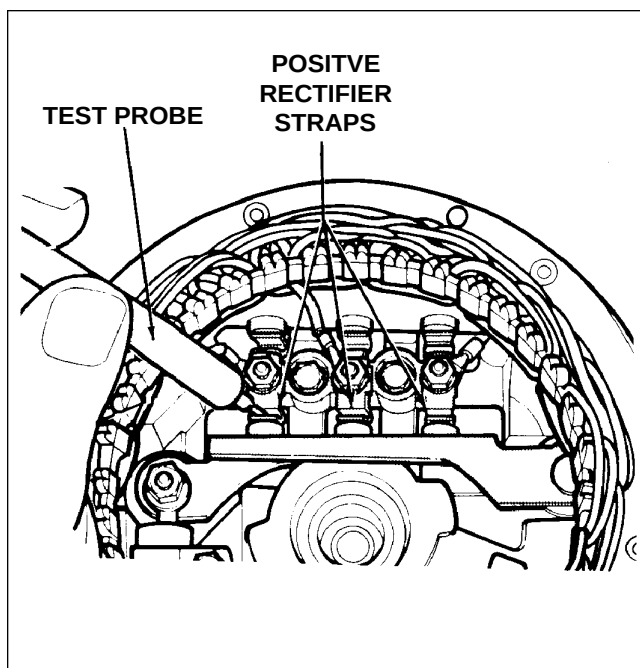

Figure 24-20. Testing Chrysler Alternators
a. Testing Of Positive Rectifiers Using C-3829 Tester (Refer to figure 24-20.)
- (1) Place rectifier end shield and stator assembly on an insulated surface.
- (2) Plug tester C-3829 power source lead into 110-volt ac power supply.
- (3) Connect test lead alligator clip of tester C-3829 to alternator output terminal.
- (4) Touch metal strap of each positive rectifier to test probe.